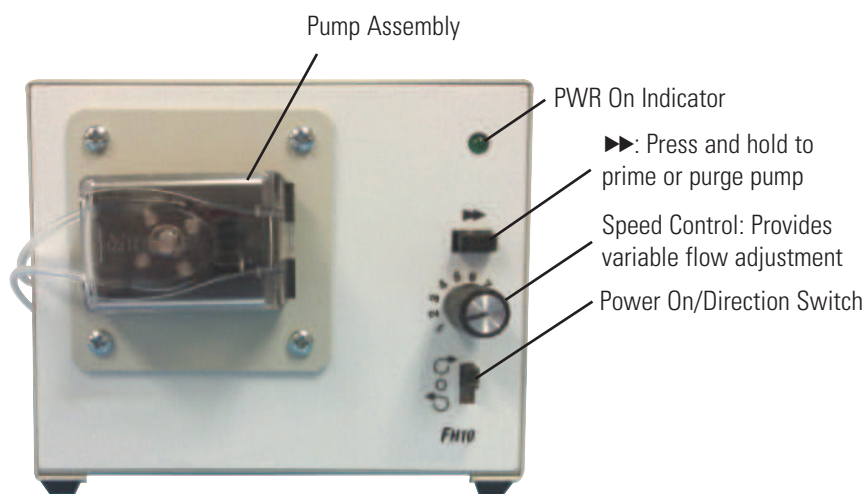

Figure 1-2. Pump – Front Panel
The **single-turn, adjustable Speed Control**, Figure 1-2, provides variable flow-operation. The green PWR On indicator lights whenever the pump is operating. The Power On/Direction Switch turns power on when either clockwise or counterclockwise pump rotor direction is selected. The ►► Button is used for priming and purging and operates the pump at maximum speed while depressed.
1. Place the **Power On/Direction** Switch, Figure 1-2, in the center (Off) position.
2. Open the **Door**, Figure 1-2, by grasping the finger recesses on either side and pulling away from the pump.